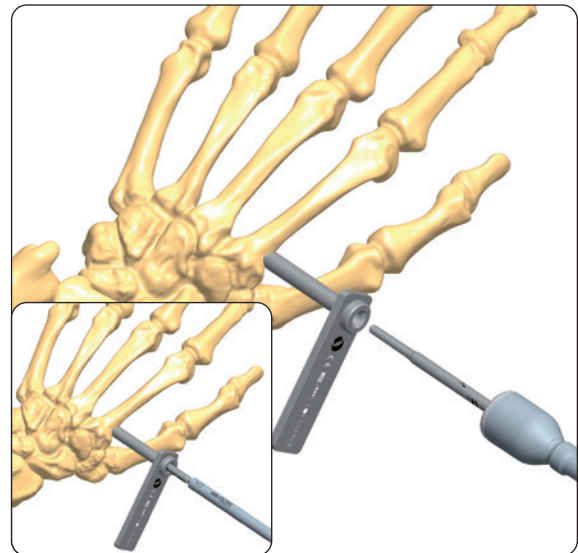

Fig. 4
- Insert a bone screw with the T-Wrench 4mm Shaft (93175) or the T-Wrench (M210) over the screw guide (**Fig. 4**)